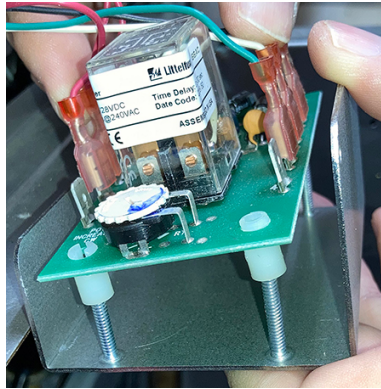

Figure 18
18. Slide the time delay relay board onto the studs of new bracket (see Figure 18).